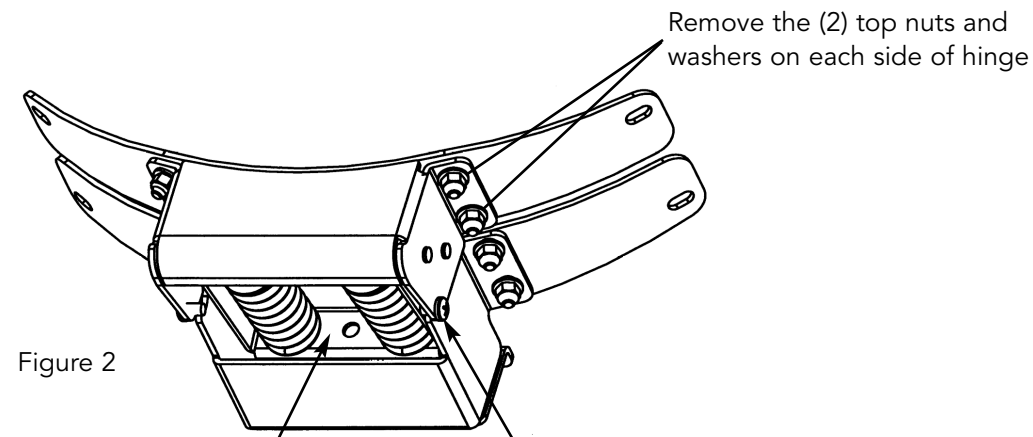

Figure 2
3. Install two (2) shipping screws, (one set on each side). (See Figure 2) Remove the two (2) top nuts and washers on each side of the hinge mount.